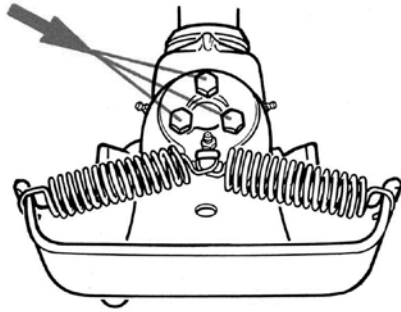

Fig. 11
- Loosen screws in lower section (see Fig. 11).